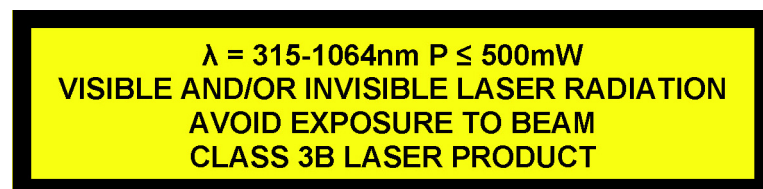

Figure 1.1 Safety label 1
- Some parts of the laser path between microscope or macro sample output to monochromator input are not housed (light diffused by the sample). See Figure 1-1, “Laser path and label (upper view)”, page 14.